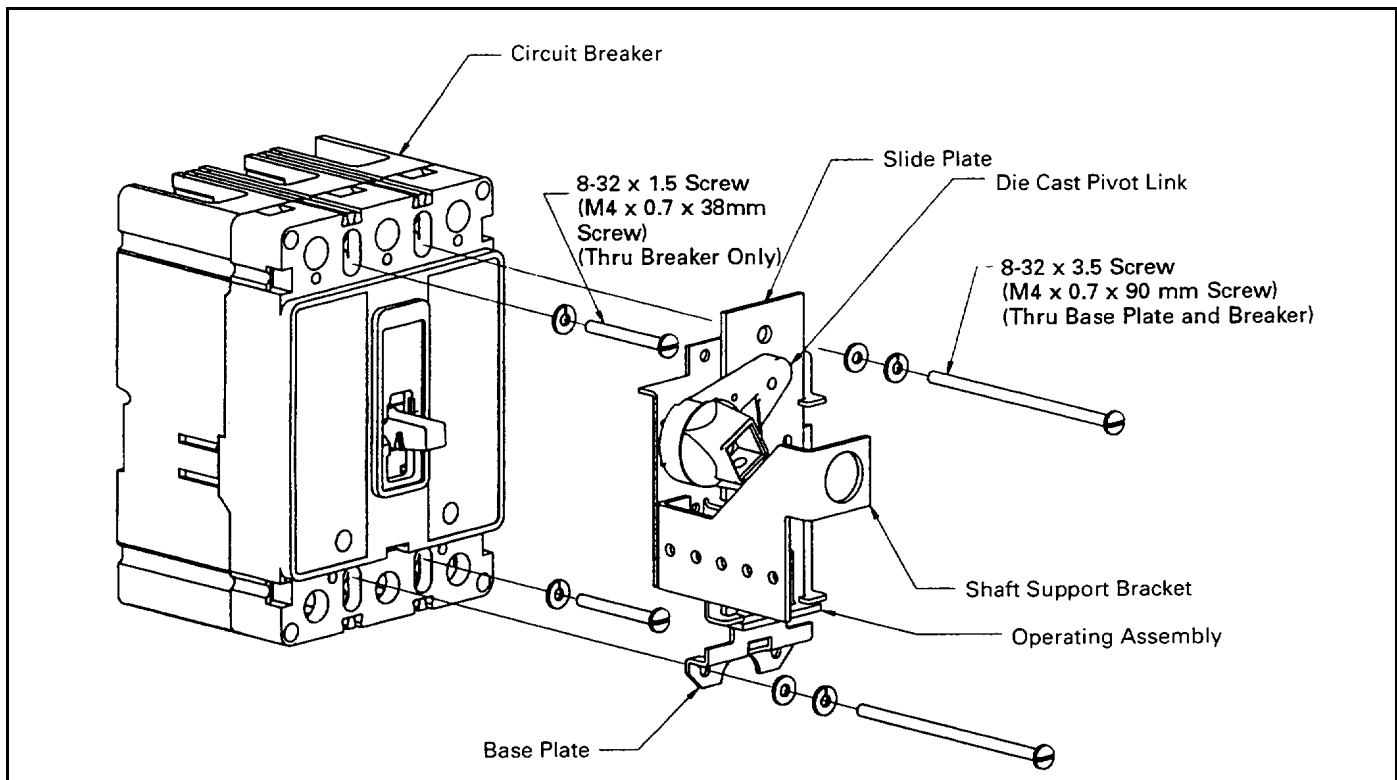

Fig. 2-2 F-Frame Breaker/Mechanism Assembly
2. Mount circuit breaker to enclosure using the two shorter screws in the hardware kit. Insert screws and lockwashers into two diagonally opposed circuit breaker mounting holes and tighten securely into tapped holes from step 1. (Fig. 2-2)
5. Mount mechanism onto circuit breaker, ensuring slide plate is engaged with the circuit breaker handle. Insert the two longer screws, washers, and lockwashers from the hardware kit into the remaining circuit breaker mounting holes. (Fig. 2-2)